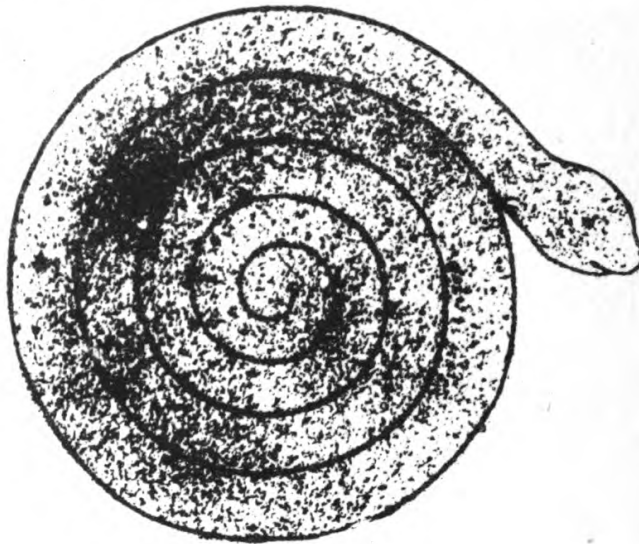

FIG. 78.
*A Rotating Snake.*—For this secure a clean flat piece of thin tin—the piece which the little patent cutter removes from the top of a round cigarette tin will do admirably—and, using a soft lead pencil, draw on it a spiral snake, such as is shown in Fig. 78. Now cut along the lines with a stout pair of scissors, or else with a sharp-pointed knife. Pull out the resultant spiral